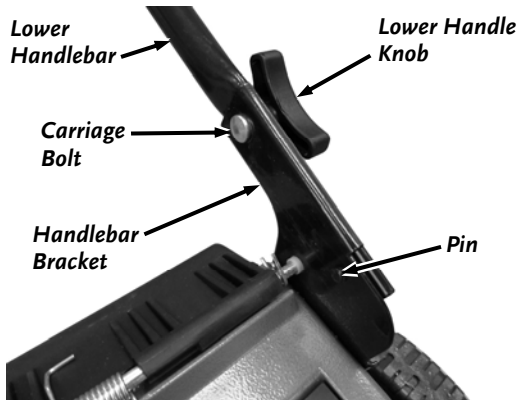

Figure 3
1. Insert the pins of the Lower Handlebar into the holes of Handlebar Brackets (**Figure 3**). Insert the short Carriage Bolts through the Lower Handlebar and Brackets. Install and tighten the Lower Handlebar Knobs onto the Carriage Bolts as tight as you can by hand.